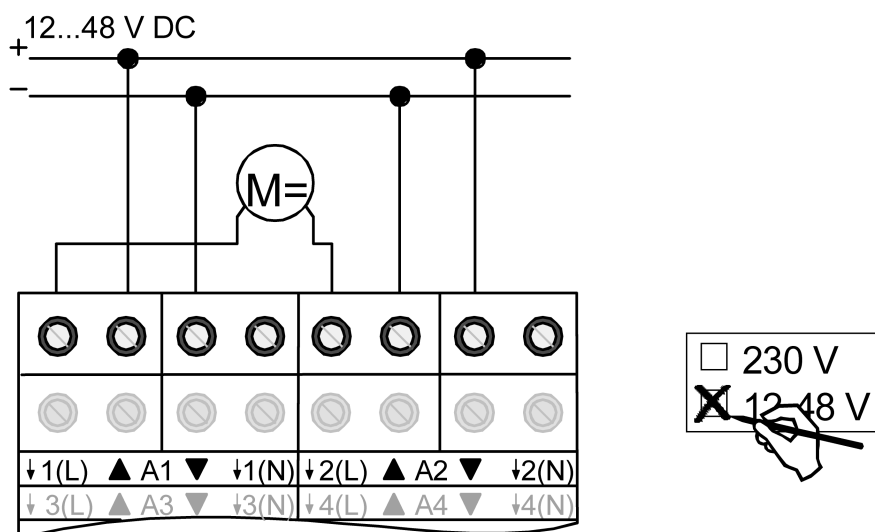

Figure 7: Electrical connection for 12 ... 48 V drives
- Connect the drives as shown in the wiring example (Figure 7).